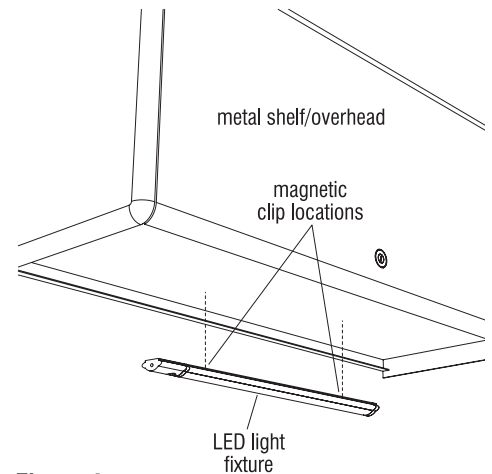
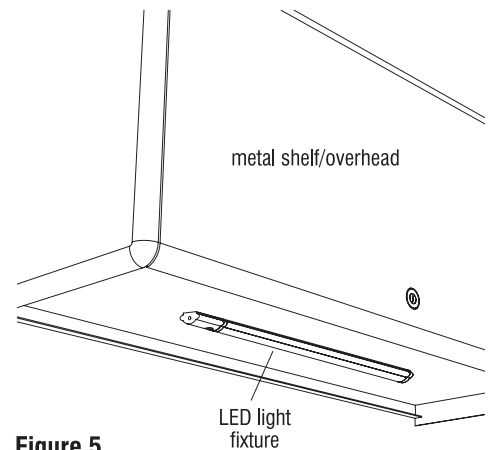

Figure 4
Figure 5
1. For direct mounting to metal shelving or overheads, attach magnetic clips to the back surface of the light fixture housing. Use one magnetic clip on each end of the light fixture (Figure 4).
2. Locate fixture to the desired position on metal shelf or overhead (Figure 4) and set in place (Figure 5).